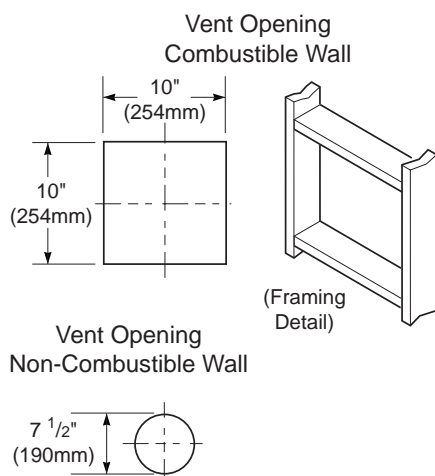
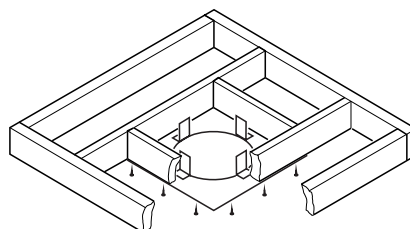

Figure 13 - Vent Opening Requirements
Figure 23 - Installing Firestop
3. Attach vent pipe assembly to the fireplace. Set fireplace in front of it's permanent location to insure minimum clearances. Mark the wall for a 10" square hole (for noncombustible material such as masonry block or concrete, a 7 1/2" diameter hole is acceptable). See Figure 13. The center of the hole should line up with the center-line of the horizontal rigid vent pipe. Cut a 10"x10" (254mm x 254mm) square hole through combustible exterior wall (7 1/2" [190mm] diameter hole if noncombustible). Frame as necessary (see Figure 13).
1. Cut a 10" square hole in the ceiling using the locating hole as a center point. The opening should be framed to 10"x10" (254mm x 254mm) inside dimensions, as shown in Figure 13 on page 9 using framing lumber the same size as the ceiling joists. If the area above the ceiling is an insulated ceiling or a room, nail firestop from the top side. This prevents loose insulation from falling into the required clearance space. Otherwise, install firestop below the framed hole. The firestop should be installed with no less than three nails per side (see Figure 23).
3. Cut a hole in the roof using the locating hole as a center point. (Cover any exposed open vent pipes before cutting hole in roof.) The 10"x10" hole must be measured on the horizontal; actual length may be larger depending on the pitch of the roof. There must be a 1" clearance from the vent pipe to combustible materials. Frame the opening as shown in Figure 13 on page 9.